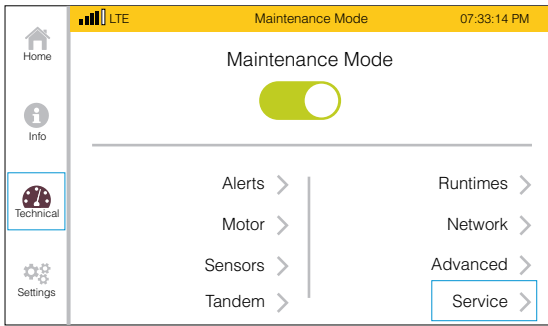

FIGURE 58. PRESS SERVICE >
- 8. On the Technical screen, press **SERVICE >** (FIGURE 58).